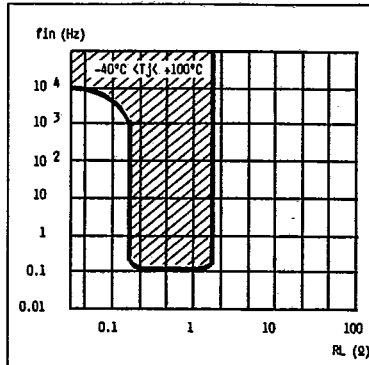

Figure 20. SOA for load resistance vs. input frequency.  $V_{CC} = +5V$ .
Due to a slight delay in the circuit, a high current transient will occur when the output is shorted to  $V_{cc}$ . This current transient may reach 8A during 5 $\mu s$ . Consequently, switching at high frequencies with a shorted output may destroy the circuit. To prevent destruction of the device in such cases, input switching frequency should be lowered to a safe value, or inhibited completely. See figures 20 through 24 "Safe operating areas."
7. When switching and an error is detected, immediately decrease the switching frequency. If the error is a short circuit to  $V_{cc}$ , continued switching may result in an operating point outside the safe operating area, which will shorten the life expectancy of the device. See figures 20 through 24.
- For resistive loads, the maximum input frequency can be found in figures 20 through 24. The figures show safe operating areas (SOA) for different supply voltages. The left side of the SOA areas shows correctly working short-circuit protection without exceeding thermal limitations due to repetitive high current transients. The right SOA area shows correctly working driver without exceeding the  $I_{out} = 2A$  limit. The shaded area represents a non-safe area. The limit is set by the short-circuit currents that form a high average level due to short-circuit detection delays. This results in temperatures exceeding the maximum ratings and consequently reducing the life expectancy. Note that, for switching frequencies below 0.1Hz, any load can be tolerated.